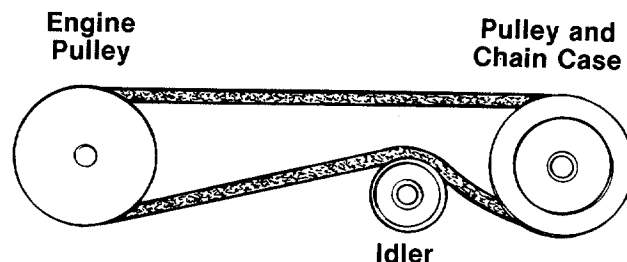

FIGURE 35.
5. Reassemble using the new belt, making certain the idler pulley is under the belt. See figure 35.